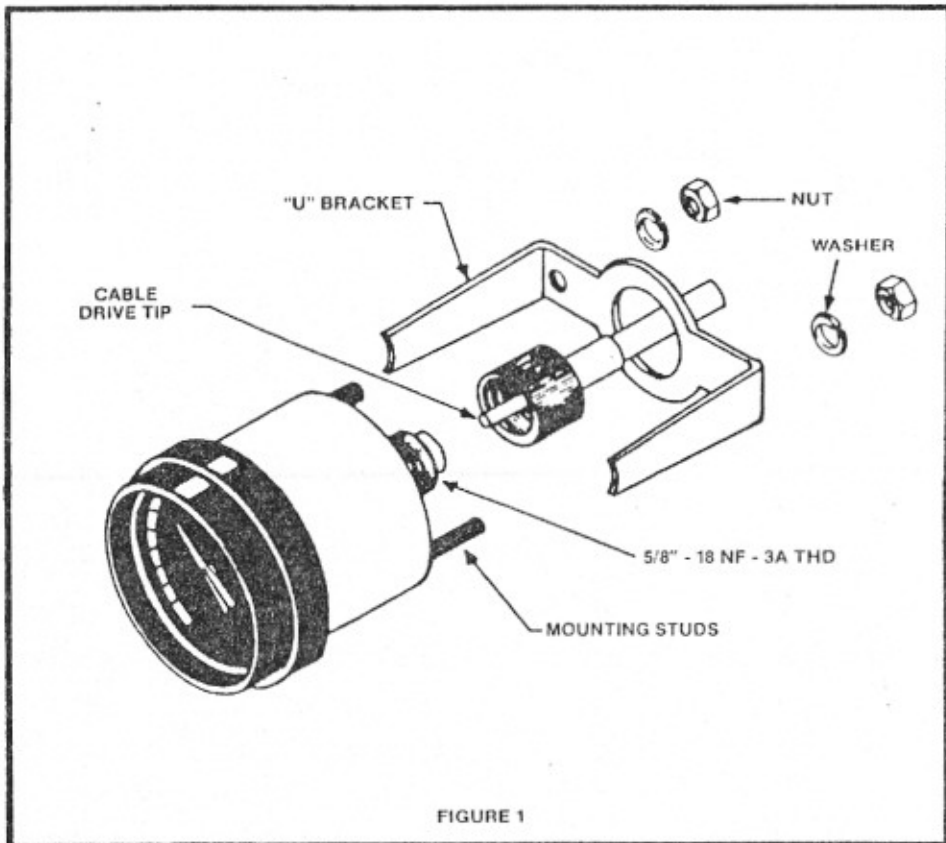

FIGURE 1
4. Open Hardware Package. Fit "U" Bracket over mounting studs on back of Gauge (See Figure 1).
1. After checking fit of gauge and "U" Bracket, insert Gauge into panel and install Bracket over mounting studs. Install a Nut and Washer onto each mounting stud as shown in Figure 1.
2. After installing the gauge, insert the square cable tip into the gauge and tighten the nut firmly by hand. A pliers may be used to finish tightening the nut. **Do not overtighten.** (See Figure 1).